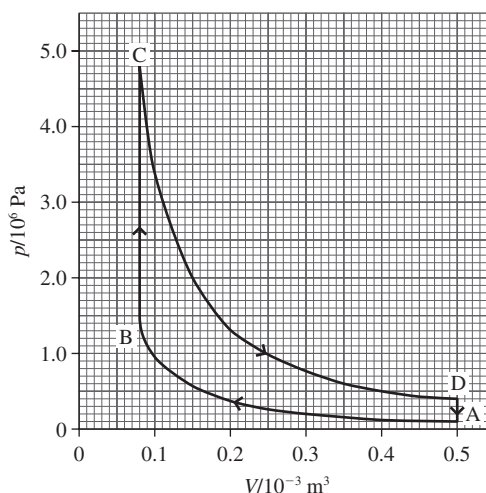
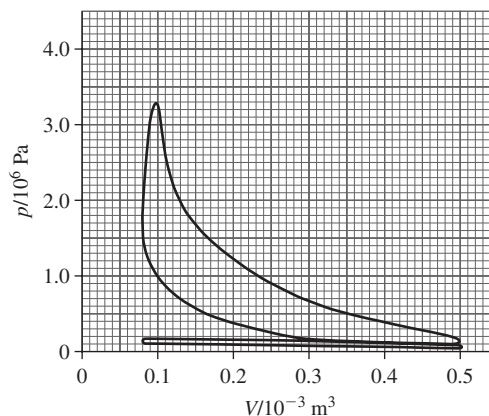

Figure 9
Figure 10
- 10 (a) The p - V diagram in **Figure 9** shows the theoretical cycle for a petrol engine in which a fixed mass of air is taken through the following four processes:
- (b) **Figure 10** shows the p - V diagram taken from a real four-stroke petrol engine having the same maximum and minimum volumes as the cycle shown in **Figure 9**.
Explain **two** differences between the theoretical and real cycles (as illustrated by **Figures 9** and **10**). You may be awarded additional marks to those shown in brackets for the quality of written communication in your answer.